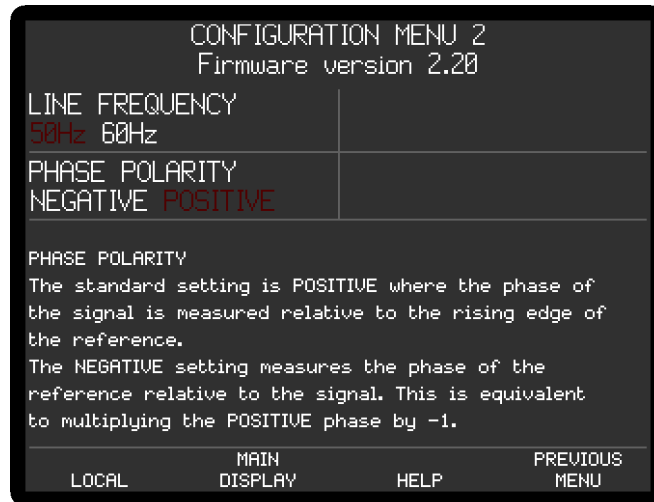

Figure 2-9, Configuration Menu 2
- 5) Press one of the keys adjacent to the Configuration 2 menu item to enter the Configuration menu 2, shown below in figure 2-9.
- 5) The present line frequency setting is shown under the LINE FREQUENCY label and is either 50 or 60 Hz. In figure 2-9, the filter is set to 60 Hz. If this setting does not match the local line frequency, then press a key adjacent to this item once to change it.